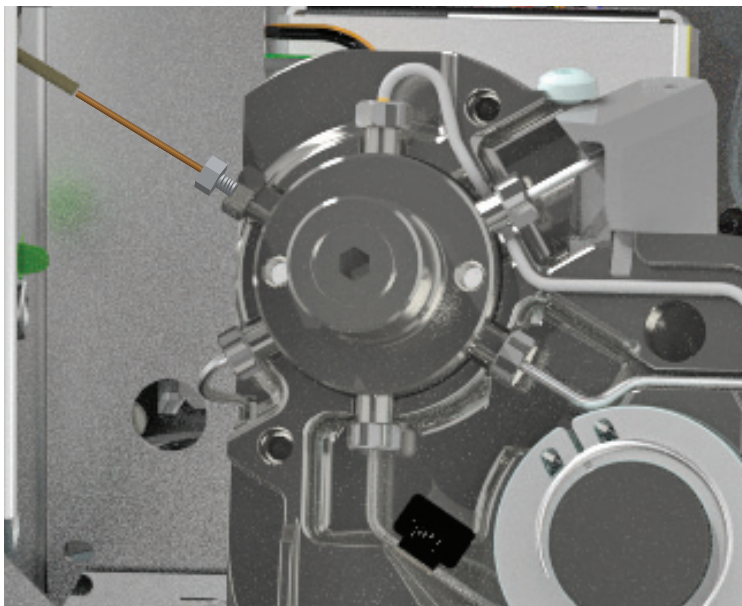

Figure 7. 3/16-inch internal reducer with valve cover removed.
- 7 Loosen the 3/16-inch nut in the internal reducer (**Figure 7**). (Stabilize the valve fitting using a 1/4-inch wrench.)